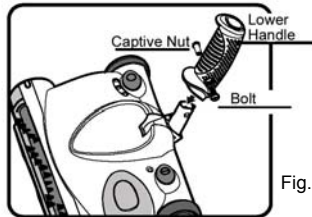

Fig. 2
- Insert the lower handle. Fasten it with the captive nut and bolt that is provided. (Fig. 2)